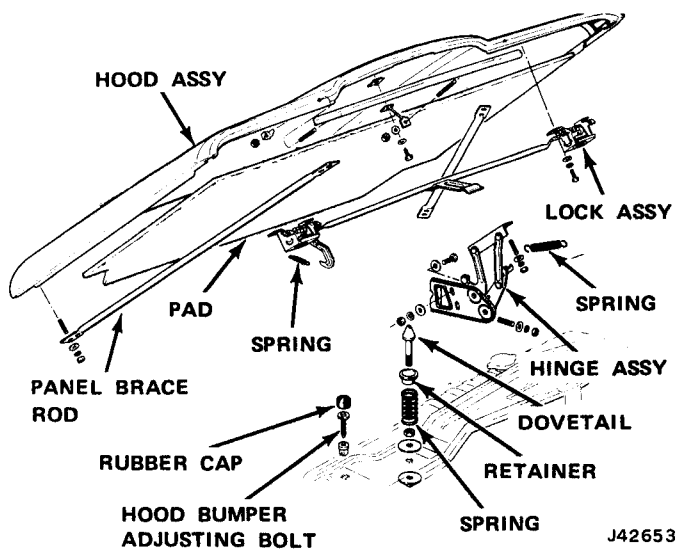

Fig. 14-15 Hood and Related Parts—Cherokee-Wagoneer-Truck
- (4) Disassembly of Cherokee, Wagoneer, and Truck hood is accomplished by removing hood lever lock assembly, front filler bezel, left and right hood panel brace rods, and insulation pad (Cherokee and Wagoneer) cemented to the hood panel (fig. 14-15).